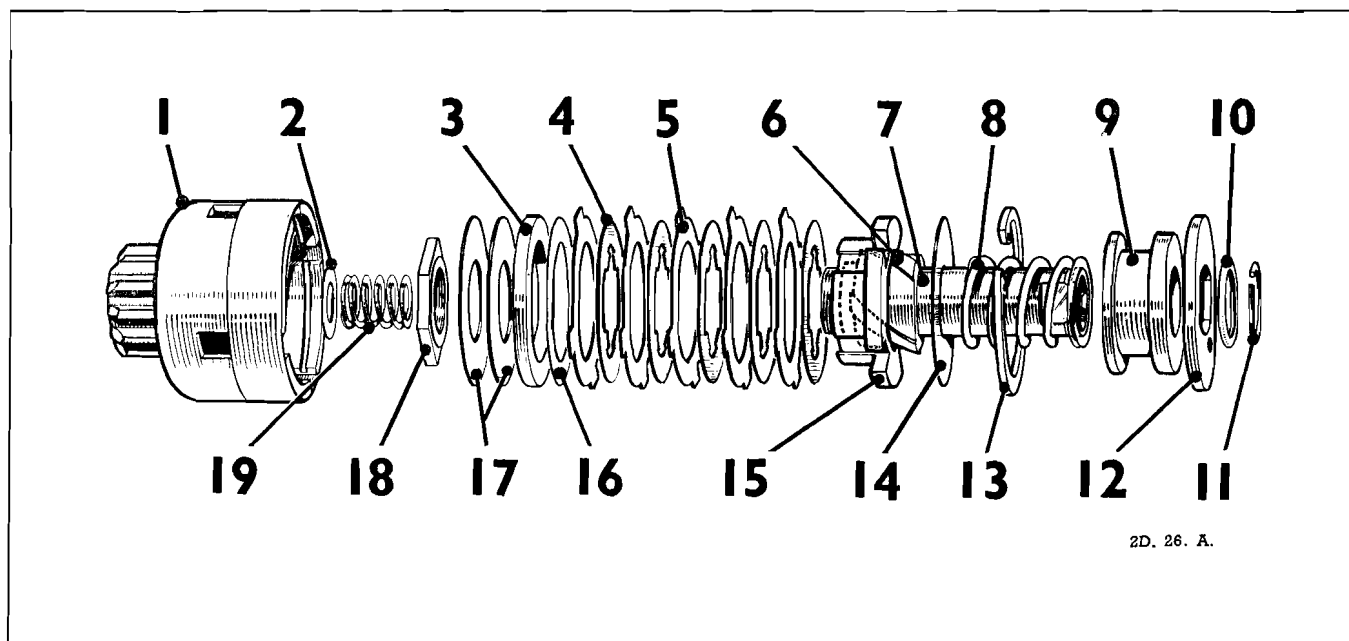

Fig. J14. Drive Assembly.
This drive assembly is mounted on the armature of the starting motor with the centre core (Fig. J14) splined to the motor shaft. When the vehicle starting lever is moved the operating bush (9) moves the whole of the drive assembly along the motor shaft to engage the pinion with the engine flywheel static ring. When the teeth are correctly engaged a pilot switch on the operating mechanism energises a solenoid and so applies power to the motor and the engine is cranked.